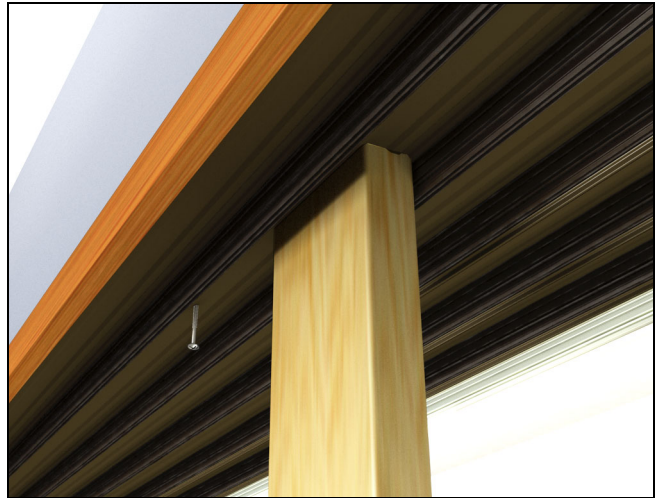

Figure 84
5. If necessary, shim head jamb so that the story pole stays in light contact with the sill and head jamb frame. Fasten with #8 x 3" black installation screws. See figure 84.